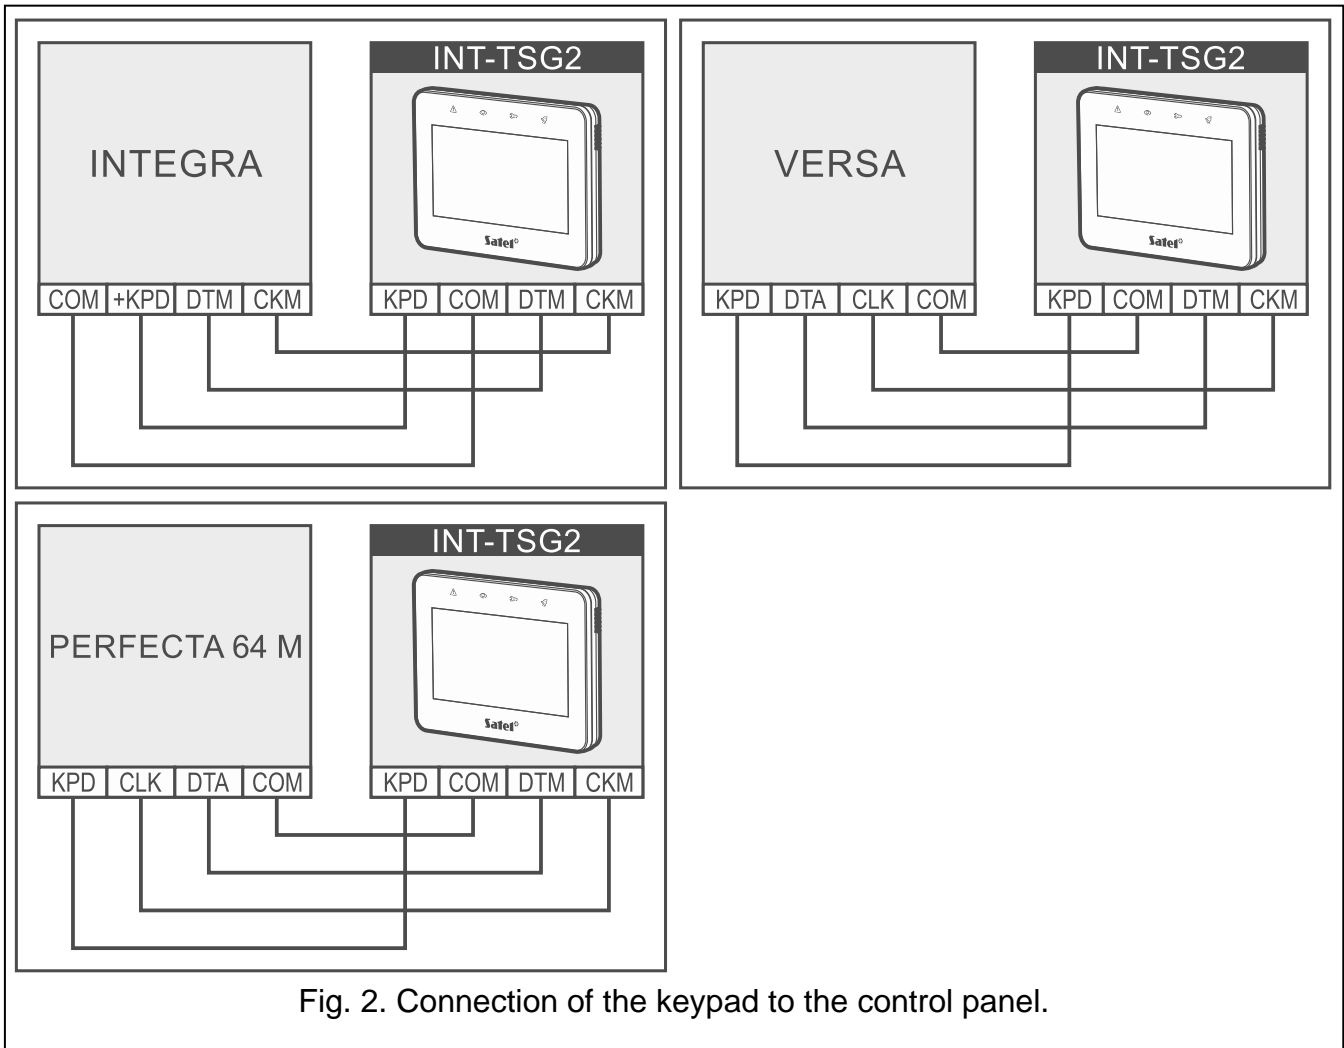

Fig. 2. Connection of the keypad to the control panel.
6. Connect the DTM, CKM and COM keypad terminals to the appropriate terminals of the control panel communication bus (Fig. 2). To make the connection, use an unshielded non-twisted cable. If you use the twisted-pair type of cable, remember that CKM (clock) and DTM (data) must not be sent through one twisted-pair cable. The wires must be run in one cable. The length of cables must not exceed 300 m.